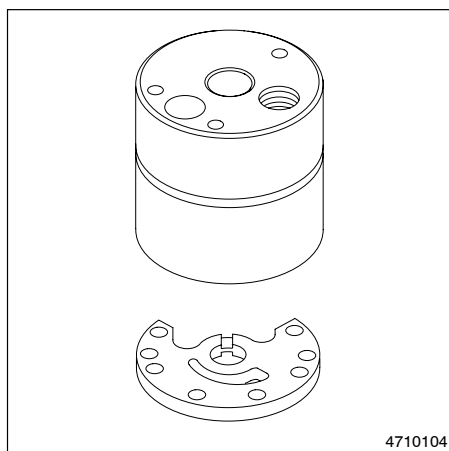

Fig. 7-26 Removing the Upper Pump Plate
12. See Figure 7-26. Remove the upper pump plate from the pump body. Discard the upper pump plate.